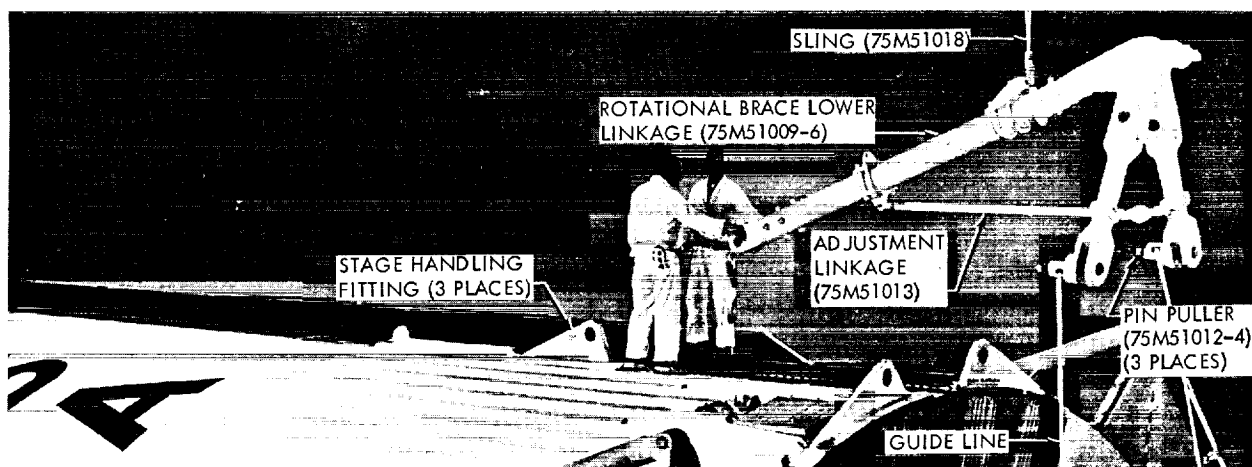

Figure 4-3. Aft Rotational Brace Positioning
- e. Hoist rotation brace lower linkage clear of storage and handling fixture (75M51025) to Position III on aft end of the S-IC stage and attach to the three stage handling fittings per figure 4-3. Use previously installed 3 inch pins ((1) 75M51020-5 and (2) 75M51020-6) and pin pullers (75M51012-4). A high ranger and a cherry picker will provide access.